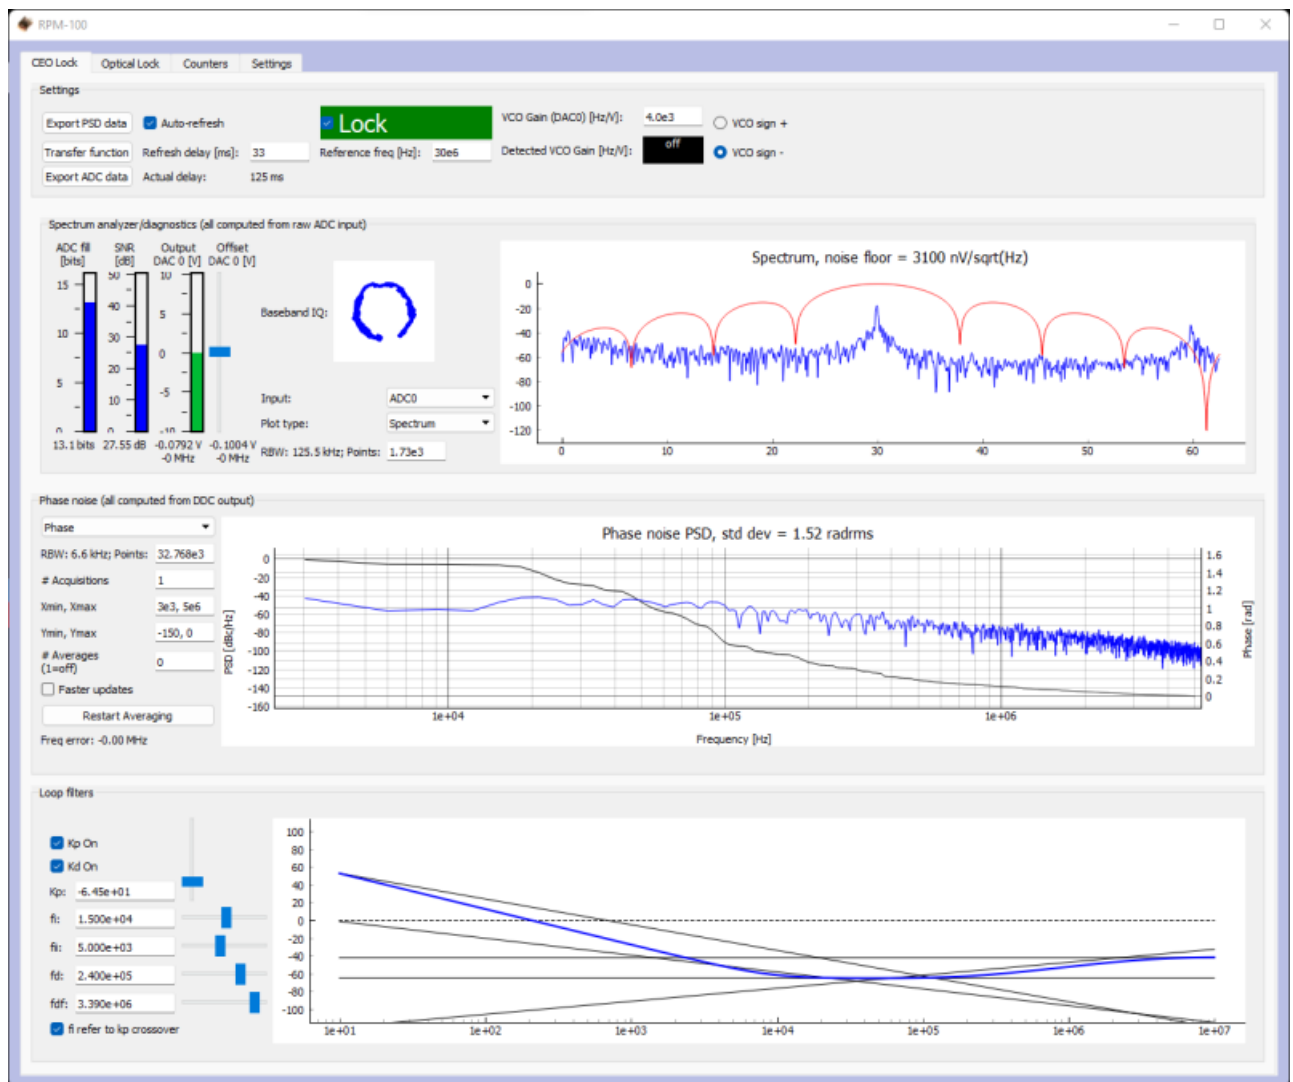

Fig. 10: Locking $f(\text{CEO})$
- Press the "Lock" button (figure 10, top middle). If the system doesn't lock, change the VCO sign to the opposite polarity (top right) and try again. A warning may occur if the selected VCO sign is incorrect. If the system still won't lock, try lowering the K_p value (bottom left).